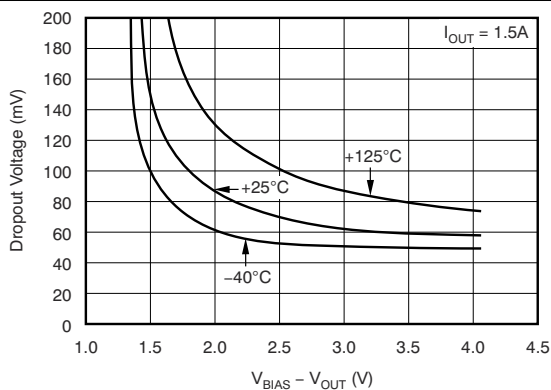

图 5-11. V_{IN} Dropout Voltage vs $(V_{BIAS} - V_{OUT})$ and Temperature (T_J)
- (1) Adjustable devices tested at 0.8 V; resistor tolerance is not taken into account.
- (2) Dropout is defined as the voltage from V_{IN} to V_{OUT} when V_{OUT} is 3% below nominal.
- (3) 3.25 V is a test condition of this device and can be adjusted by referring to Figure 5-11.